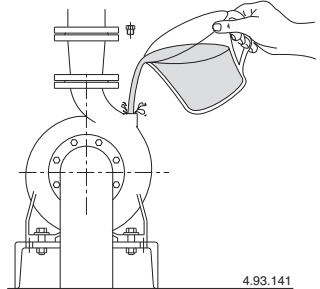

Fig. 4 Filling.
**When the pump is located above the water level** (suction lift operation) fill the suction pipe and the pump through the priming hole Fig. 4.